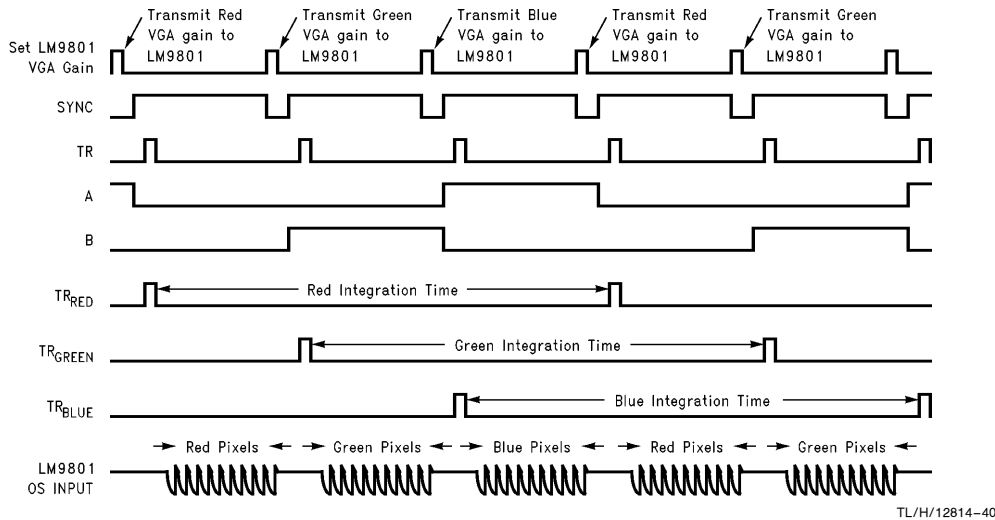

FIGURE 13. Parallel Output CCD Timing
To maximize the integration time for the Red, Green, and Blue photodiodes, the transfer (TR) pulses should be staggered as shown in Figure 13. This is done by a demultiplexer (Mux 2) between the TR output of the LM9801 and the transfer gate inputs of the CCD. If the CCD's transfer gate input capacitance is relatively low (see the CCD datasheet for this specification and the requirements for TR pulse rise and fall time), then the other half of the 74HC4052 may be used to switch the TR pulses as shown. If the TR gate input capacitance is so large that the minimum TR rise and fall times can not be met because of the 200Ω max on resistance of the 74HC4052's switches, then the 74HC4052 can not be used to multiplex the TR output and should be replaced with an active device such as the 74HC155 dual 2-to-4 demultiplexer.